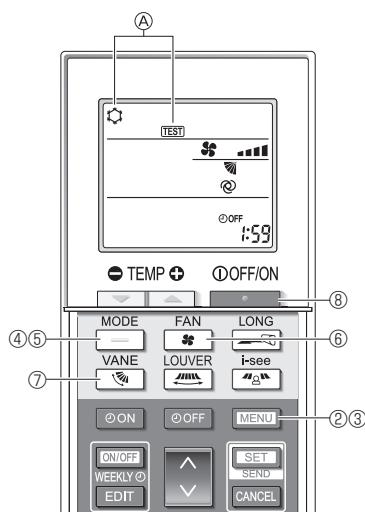

Fig. 7-9
- ③ Press the **[MENU]** button.
- ④ **[TEST]** and the current operation mode are displayed. (Fig. 7-9)
- ⑤ Press the **[—]** button to activate cool mode, then check whether cool air is blown out from the unit.
- ⑥ Press the **[—]** button to activate heat mode, then check whether warm air is blown out from the unit.
- ⑦ Press the **[Wi-Fi]** button and check whether the auto vane operates properly.
- ⑧ Press the **[•]** button to stop the test run.